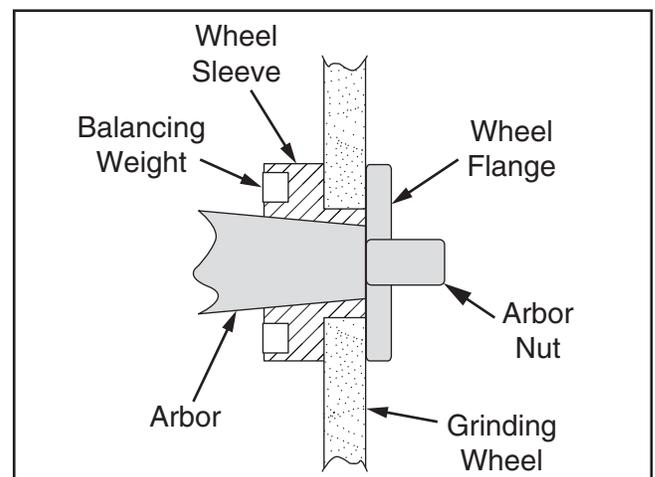

Figure 33. Wheel assembly components.
2. Insert wheel sleeve into wheel (see **Figure 33** for component identification).